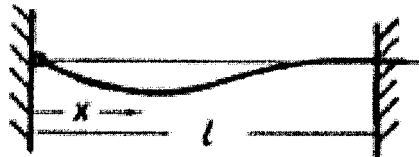

Figure 5
7. (a) Figure 5 shows a uniform beam of length  $L$  mass per unit length  $m$  and flexural stiffness  $EI$ . The left end of the beam is pinned and the right end is clamped as shown. Starting from the beam function, determine the frequency equation for free vibration. (7)